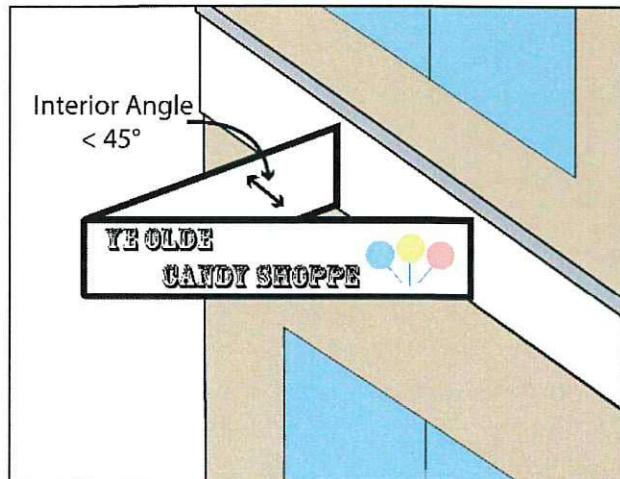

Figure 6
- a. Double Panel. If the interior angle between two faces is 45 degrees or less, the sign area to be measured is a single face. If the angle is greater than 45 degrees, the sign area to be measured will be the area sum of the areas of the two faces (*See Figure 6*).